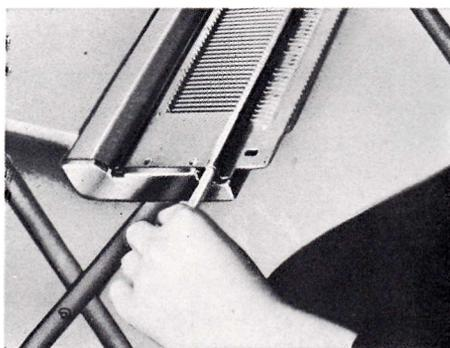

Fig. 72
- b. Grasp it by hand and draw out from the knitter until the needle you wish to change is freed. (See Fig. 72, 73)